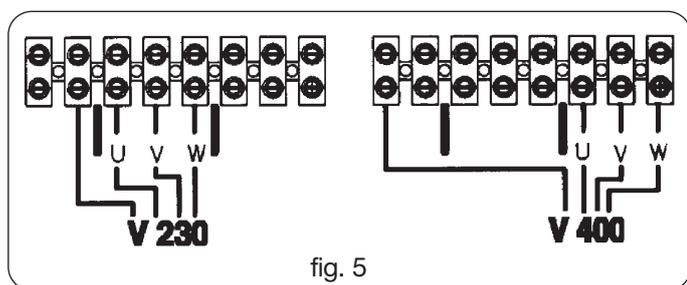

fig. 5
- To change the supply voltage, remove the right side panel and arrange the voltage change terminal board connections as shown in the figure 5.